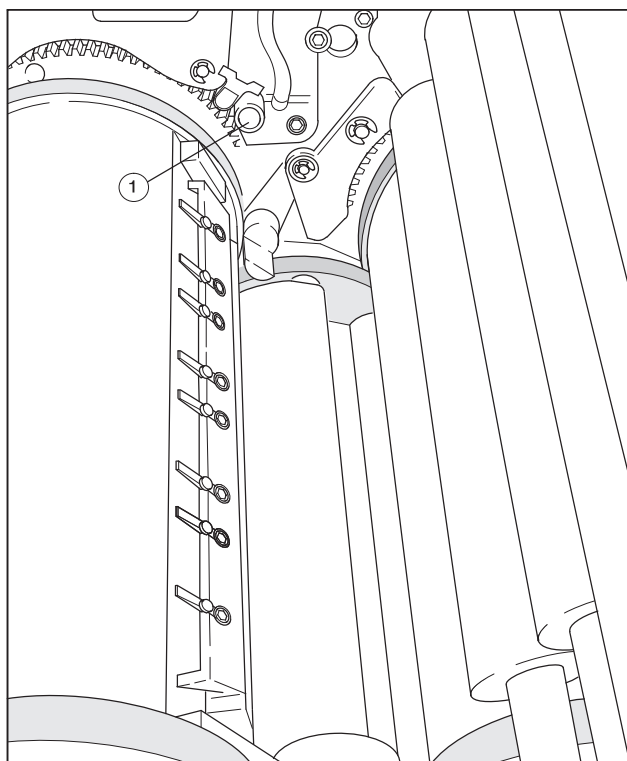

Fig. 48 Pressing rollers, bearings on D.S.
2. Insert the pressing rollers in PU 2: slide the end of the pressing roller cross bar on D.S. in the bearing (Fig. 48/1).